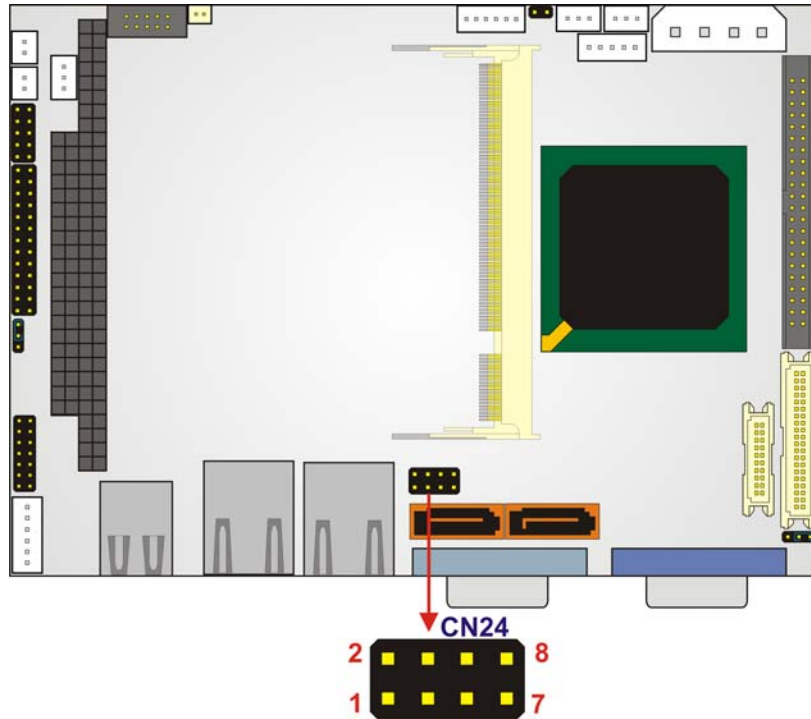

Figure 3-24: USB Connector Pinout Locations
**CN Location:** See Figure 3-24
**CN Location:** See **Figure 3-24**